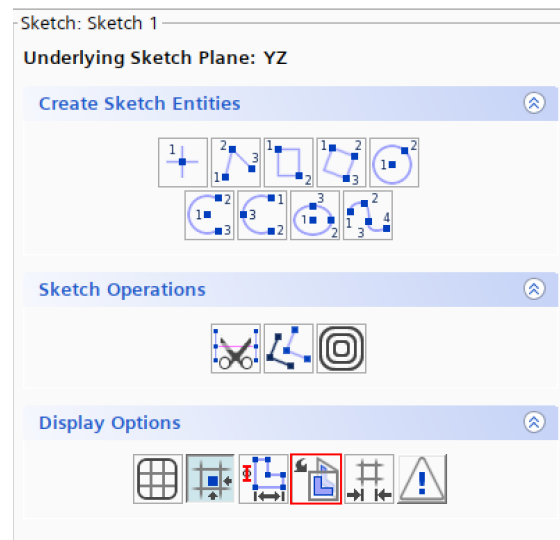

Figure 4: View Normal to Sketch Plane icon.
- Under the Display Options click on the View Normal to Sketch Plane icon. This will align the sketch plane normal to the screen. This icon is shown in Figure 4.